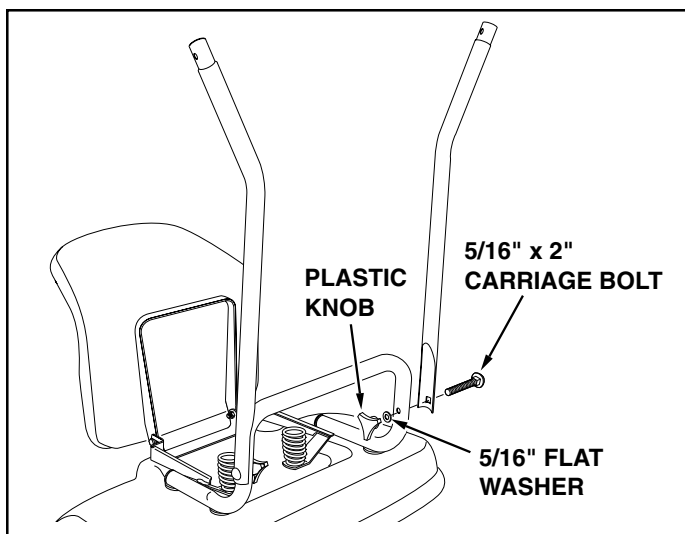

FIGURE 5
- Assemble the upright tubes to the base assembly using two 5/16-18 x 2" carriage bolts (on outside) and two 5/16" flat washers and plastic knobs (on inside). See figure 5.